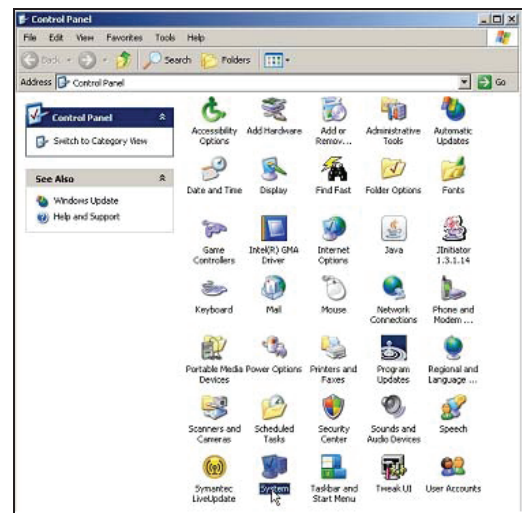

Figure 13: Control Panel – System Properties Icon
2. Select the System Properties icon (Figure 13 below).